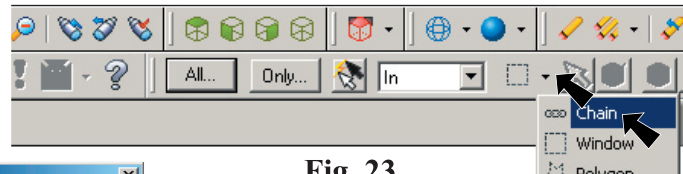

Fig. 23
Step 3. Click the down arrow of **Selection Methods** drop-down list and click **Chain**, Fig. 23.